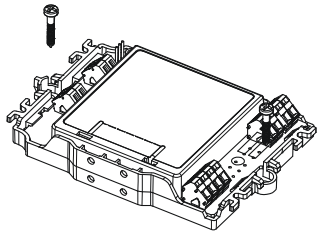

Fig. 2
- Installation directly in a switching cabinet or a control unit: mount the module on an even surface (Fig. 2).
- Fix it with two M4 screws (Fig. 2). Distance between installation holes: 118.0 ± 1.0 mm.